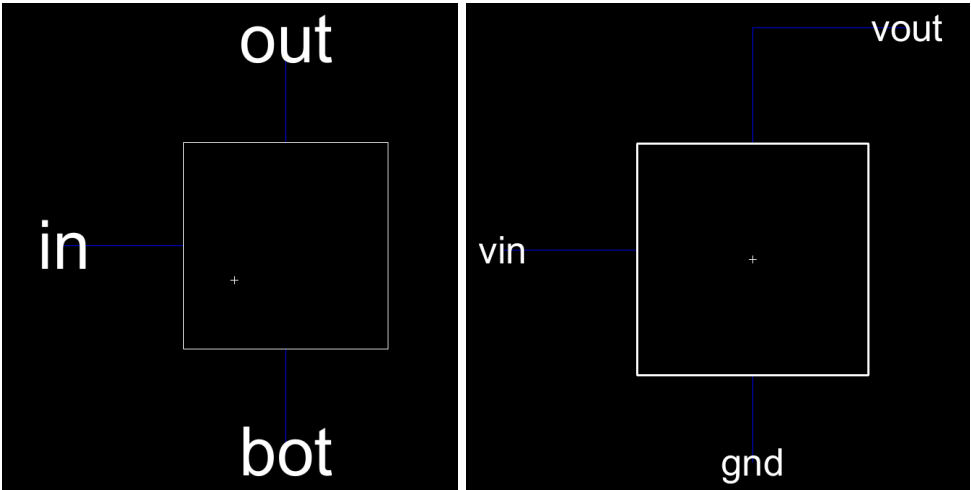

Figure 1.2: R-2R Divider Base & Sim Icon View
- Figure 1.2 displays the icon view of the R-2R divider, and the icon view that will be simulated